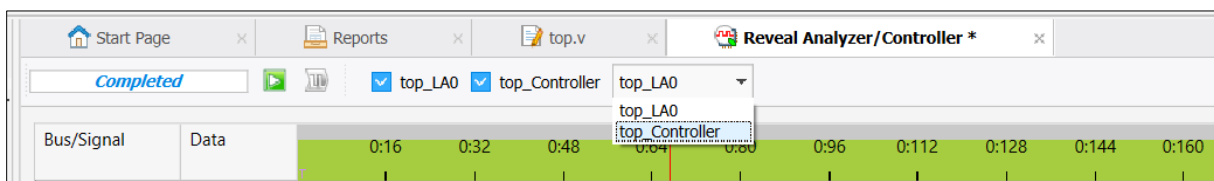

Figure 7.4. Select top_Controller
2. Reboot the device with Alternate Pattern 1: Launch the Reveal Controller by selecting the top_Controller from the drop-down menu (Figure 7.4).